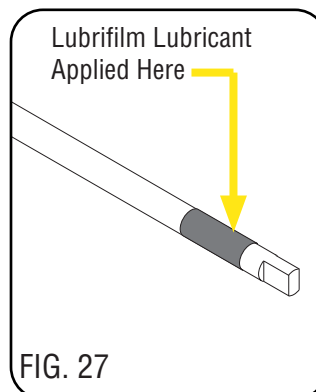

FIG. 27
13. Place a small amount lubrifilm lubricant on the ceramic surface area of the replacement auger shaft before reinstallation. FIG. 27